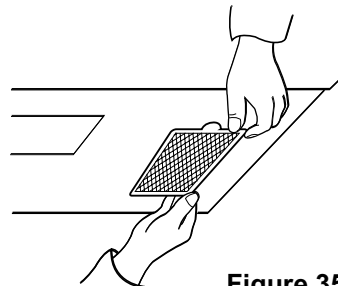

Figure 35
7. To install the grease filter: Slide it into the slide slot, then push up and toward oven center to lock. See Figure 35.